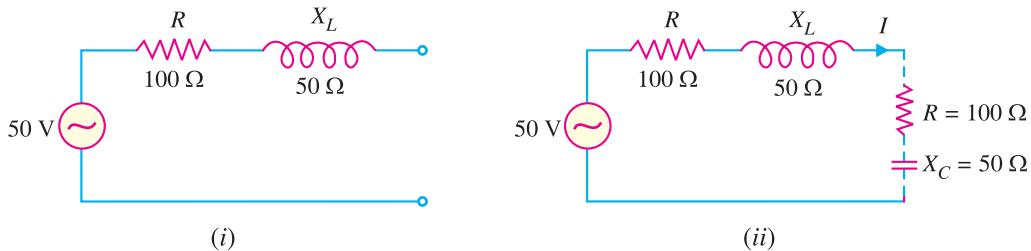

Fig. 1.22
**Example 1.7.** For the a.c. generator shown in Fig. 1.22 (i), find (i) the value of load so that maximum power is transferred to the load (ii) the value of maximum power.
(i) In a.c. system, maximum power is delivered to the load impedance ( $Z_L$ ) when load impedance is conjugate of the internal impedance ( $Z_i$ ) of the source. Now in the problem,  $Z_i = (100 + j50)\Omega$ . For maximum power transfer, the load impedance should be conjugate of internal impedance *i.e.*  $Z_L$  should be  $(100 - j50) \Omega$ . This is shown in dotted line in Fig. 1.22 (ii).